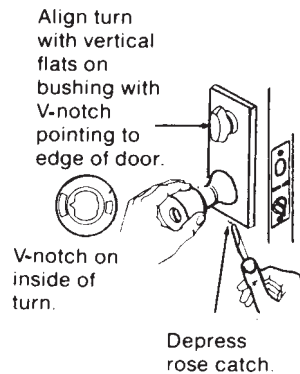

Figure 13.68 Install inside rose.
14. Install the inside rose with the turn unit in the vertical position and the V-notch on the inside of the turn pointing to the edge of the door (Fig. 13.68). Engage the top of the rose with the mounting plate and, depressing the catch, snap the rose into place. Align the lug on the knob with the slot in the spindle and depress the knob catch. Push the knob home.